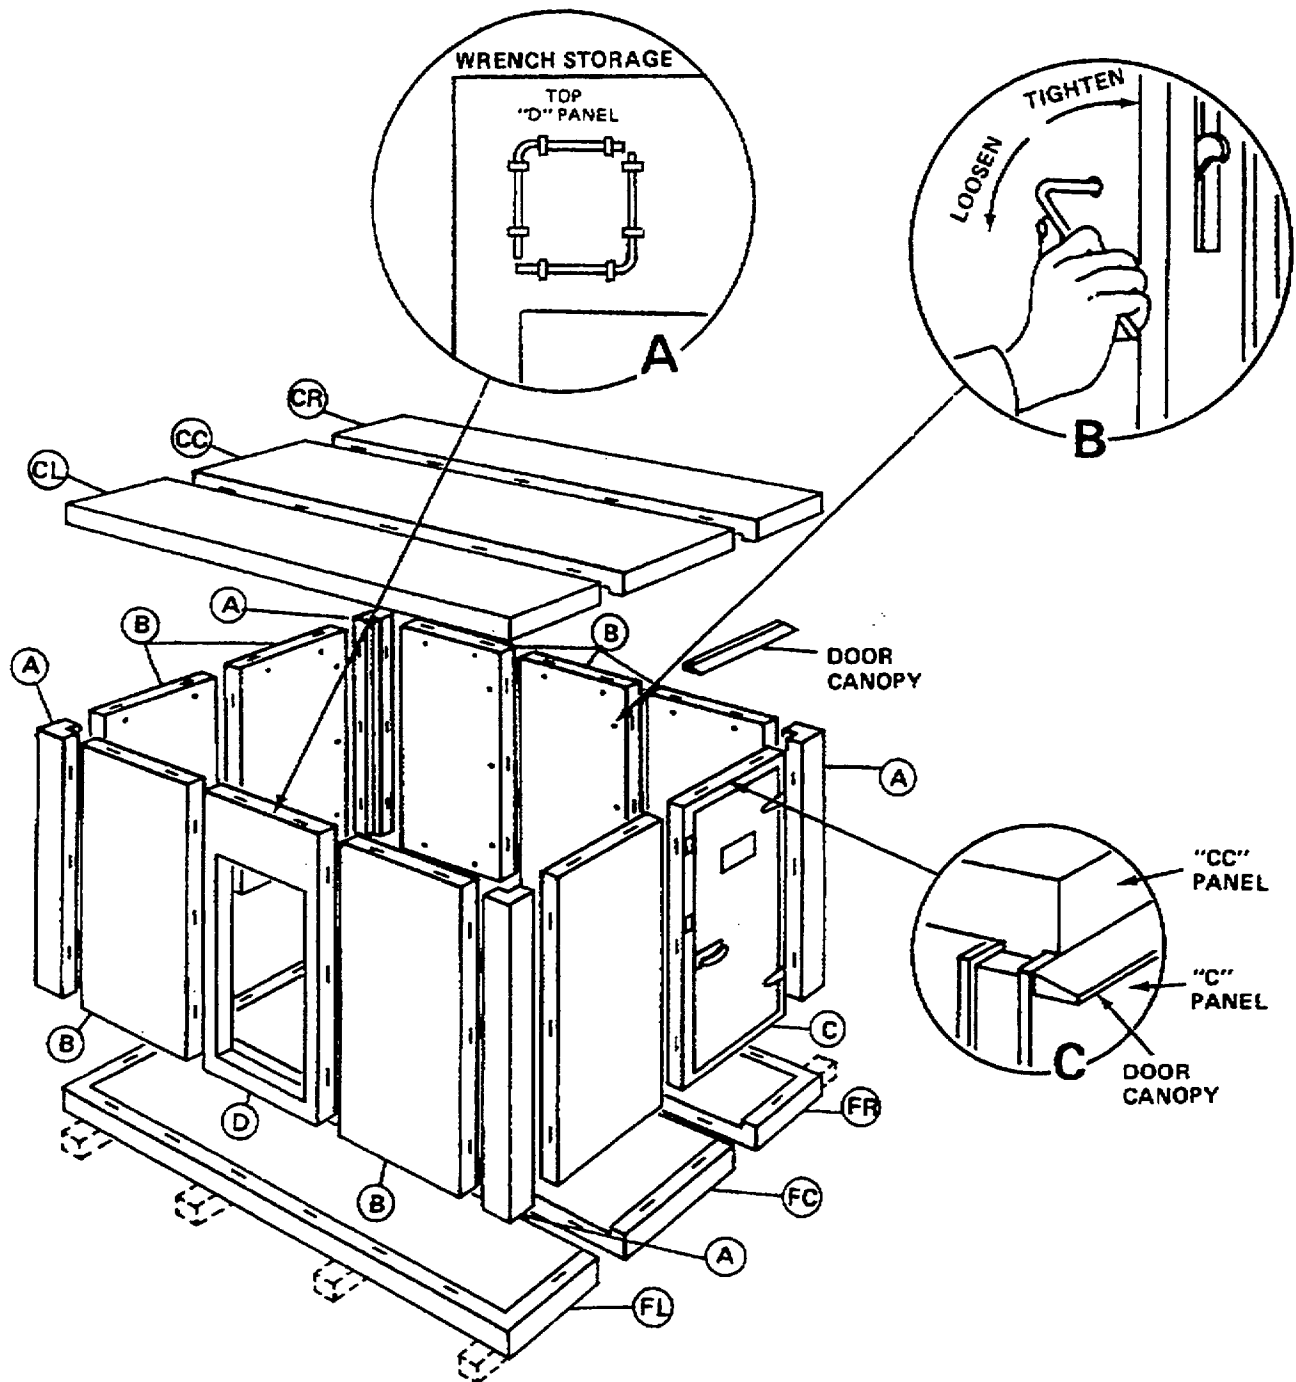

Figure 4-1. Typical Installation of Prefabricated Refrigerator Panel
A typical installation of a 600 cubic feet unit is shown in figure 4-1. The 1200 and 4000 cubic feet sizes are erected in a similar manner. All wall panels are interchangeable to produce any arrangement of walk-in doors and evaporator panels. Refer to Figure 4-3 for panel schedule.
- (3) Fasteners. Before placing any panel in position, use the wrench supplied to make certain all clamp assembly hooks are rotated counter-clockwise as far as possible. See figure 4-1 (detail A) and figure 4-2. Panels are locked together by rotating clamp assembly hooks as far as possible.
- (4) Erecting Panels (See figure 4-1.)
- (d) Hang door canopy over top of walk-in door panel "C". (See figure 4-1, detail C.)
- (j) Replace wrenches on to clips in "D" panels (figure 4-1, detail A).
- (1) Install the floor racks in their proper position in the refrigerator.
- (2) Refer to para. 4-24 and install the light as instructed.
- (3) Refer to para. 4-27 and install the thermometer as instructed.